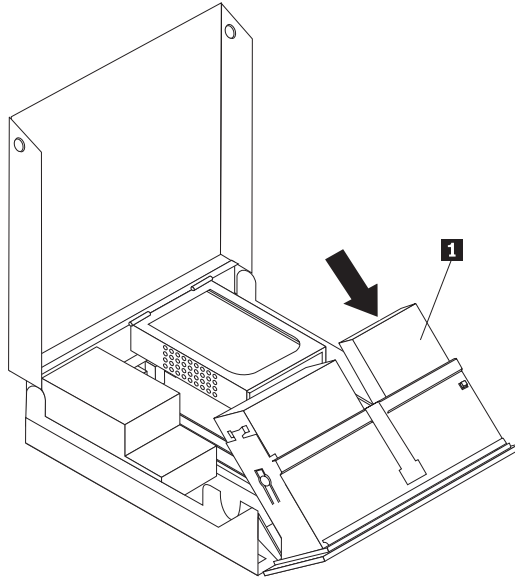

Figure 13. Installing a new drive
8. Install the new drive **1** from the rear of the drive-bay assembly and slide the diskette-drive **1** to the locked position. See Figure 13.